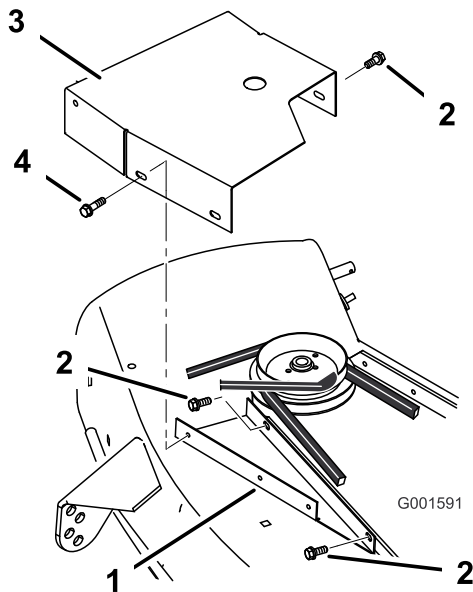

Figure 28
2. Remove the mower belt cover and belt cover bracket from the right side pulley (Figure 28).